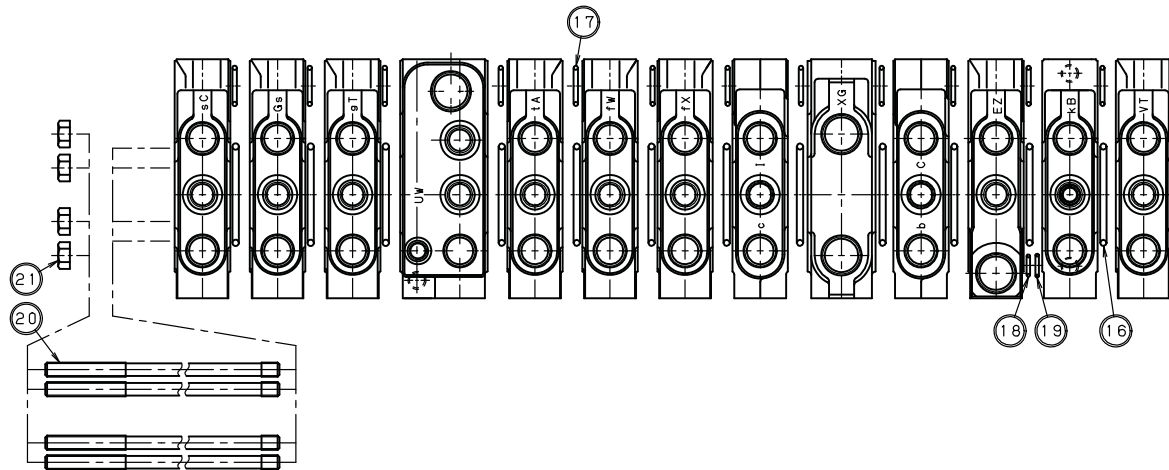

Fig.13 Body Assy
(6) Component body disassembly procedures (see Fig.13)
- ① Loosen and remove 4 M8 hex nuts (⑳) for assembling component bodies on the dozer (body-Work "sC") side with 13 mm screw wrench or socket wrench.
- ② When 4 tie bolts (㉔) are pulled out from the dozer side, each component body can be removed.